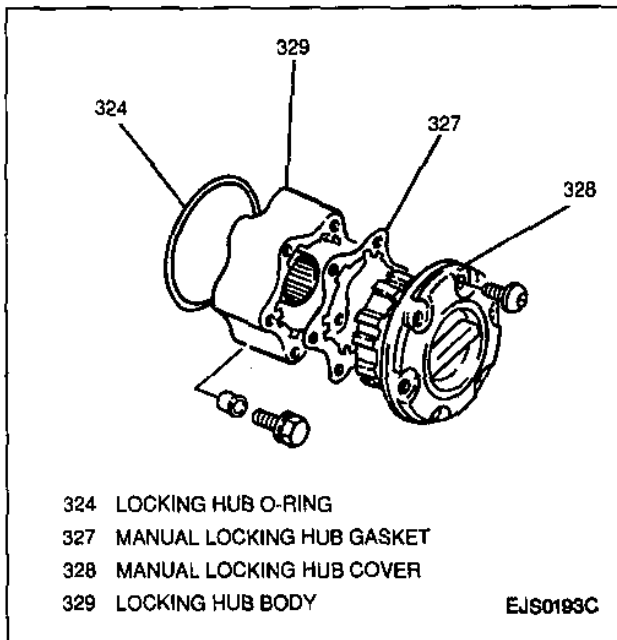

Figure 19—Manual Locking Hub
2. Locking hub body and O-ring by removing six bolts from locking hub and locking hub from wheel flange (Figure 19).